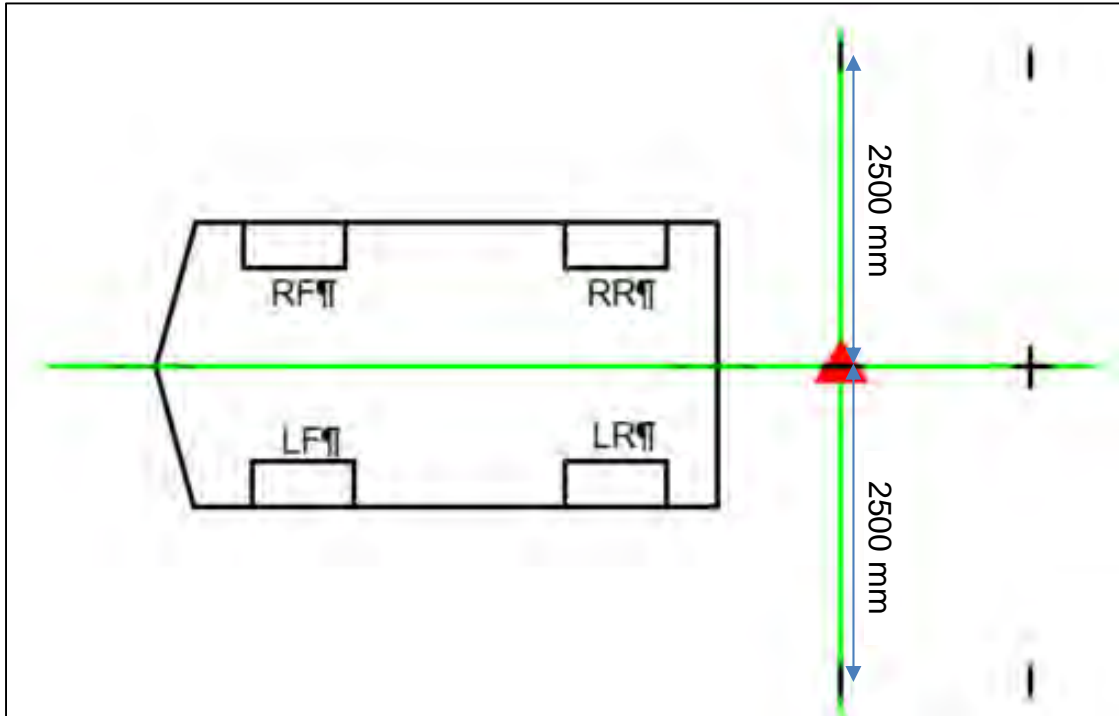
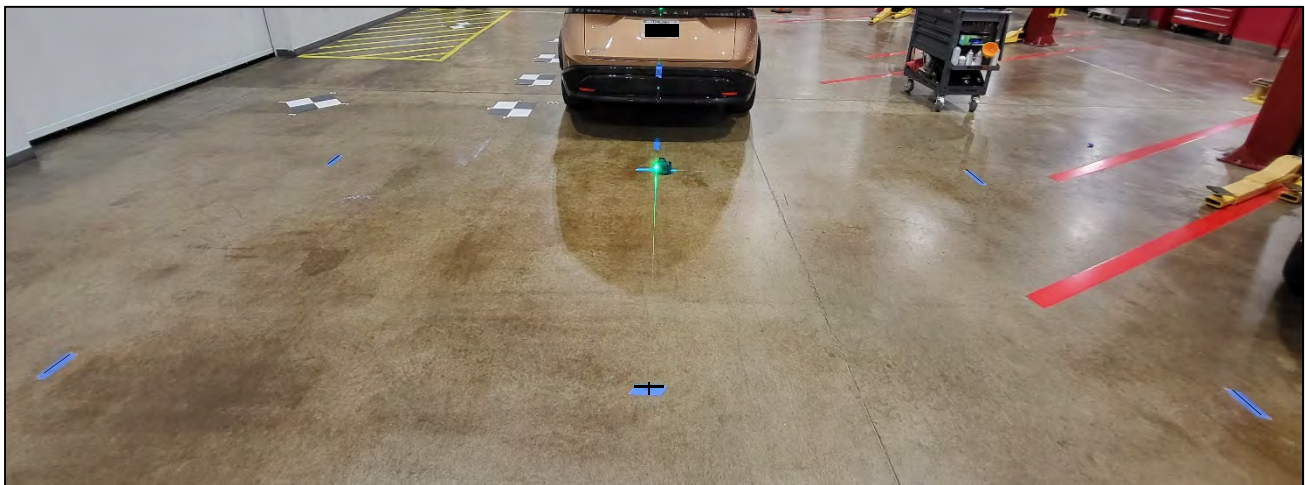

Figure 71
Figure 72
52. Move the laser to the 500 mm mark, and then measure and place a mark 2500 mm to the left and to the right of the laser level, as shown in Figure 71 and Figure 72.